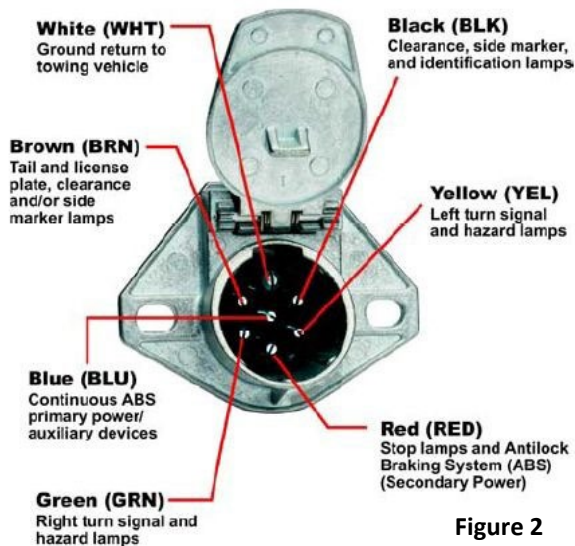

Figure 2
1. If voltage is below 12 Volts or very low. Clean pins on 7-way connector (figure 2)
- a. Check Cab 7-way connector for power. If no power on Middle pin, the ABS Fuse is blown. (Figure 2)